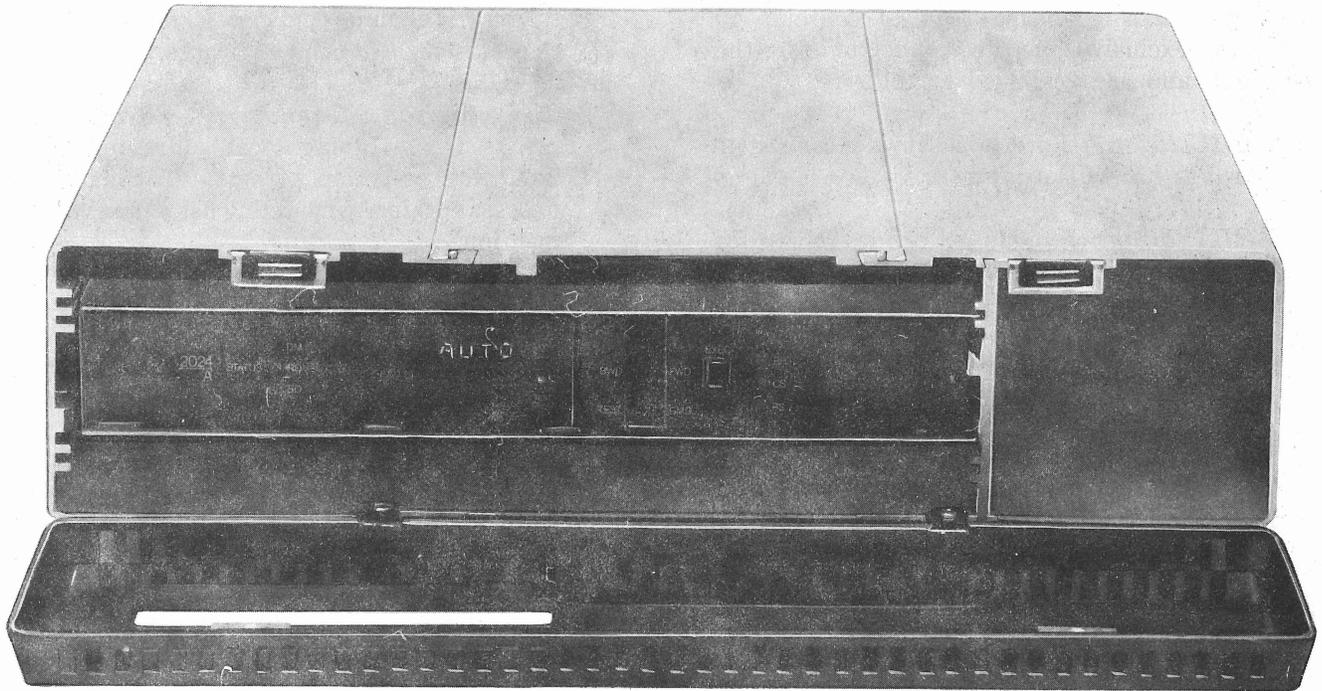

Fig. 2—63A1 Data Mounting With DATAPHONE II Service Data Set Installed
2.01 Any of the private line data sets can be used individually in a stand-alone arrangement or grouped together in a multiple arrangement. When used as a stand alone, the data set is installed in a 63A1 data mounting. When used in a multiple arrangement, the data sets are installed in a 64A1 data mounting. The 63A1 data mounting (Fig. 2) measures 15 1/2 inches wide, 13 inches deep and 4 1/4 inches high and weighs 14 1/2 pounds without data set and 21 pounds with a data set installed.